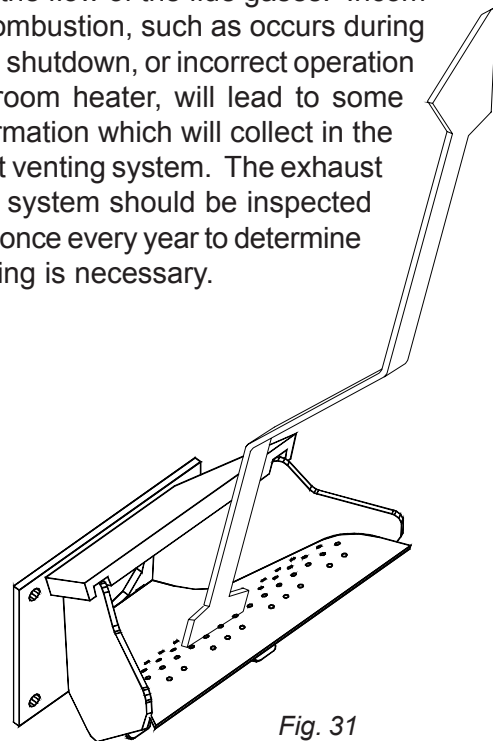

Fig. 31
10. Scrape burnpot with flat end of scraper provided with the stove. Fig.31.